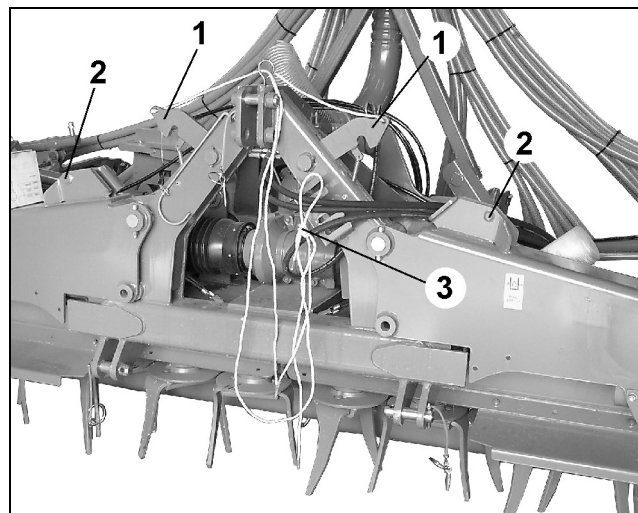

Fig. 97
- Fold down the machine. Before hand release the locking with the aid of the rope from the tractor cab. (Fig. 97/3).